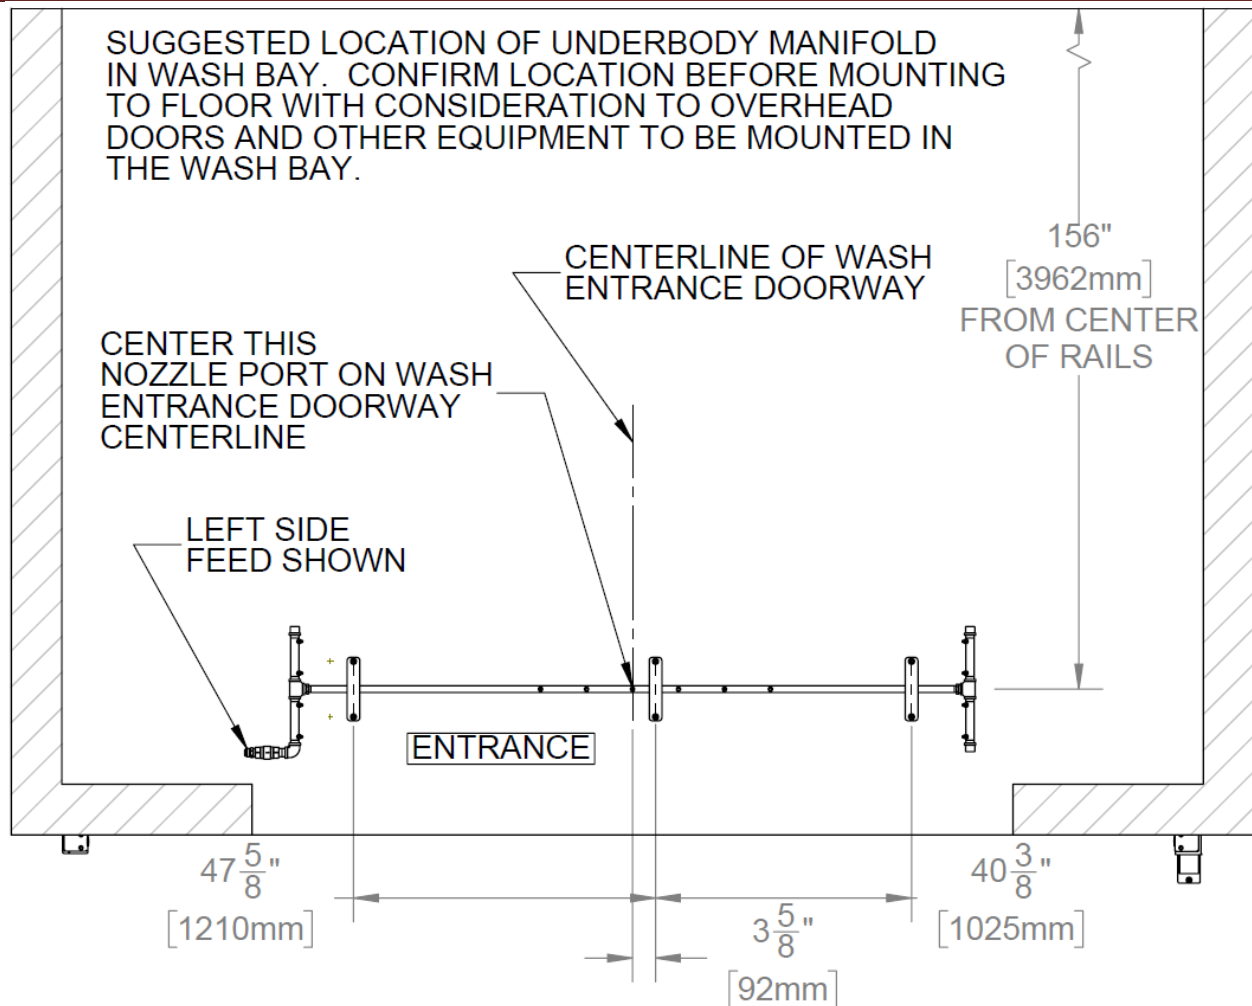
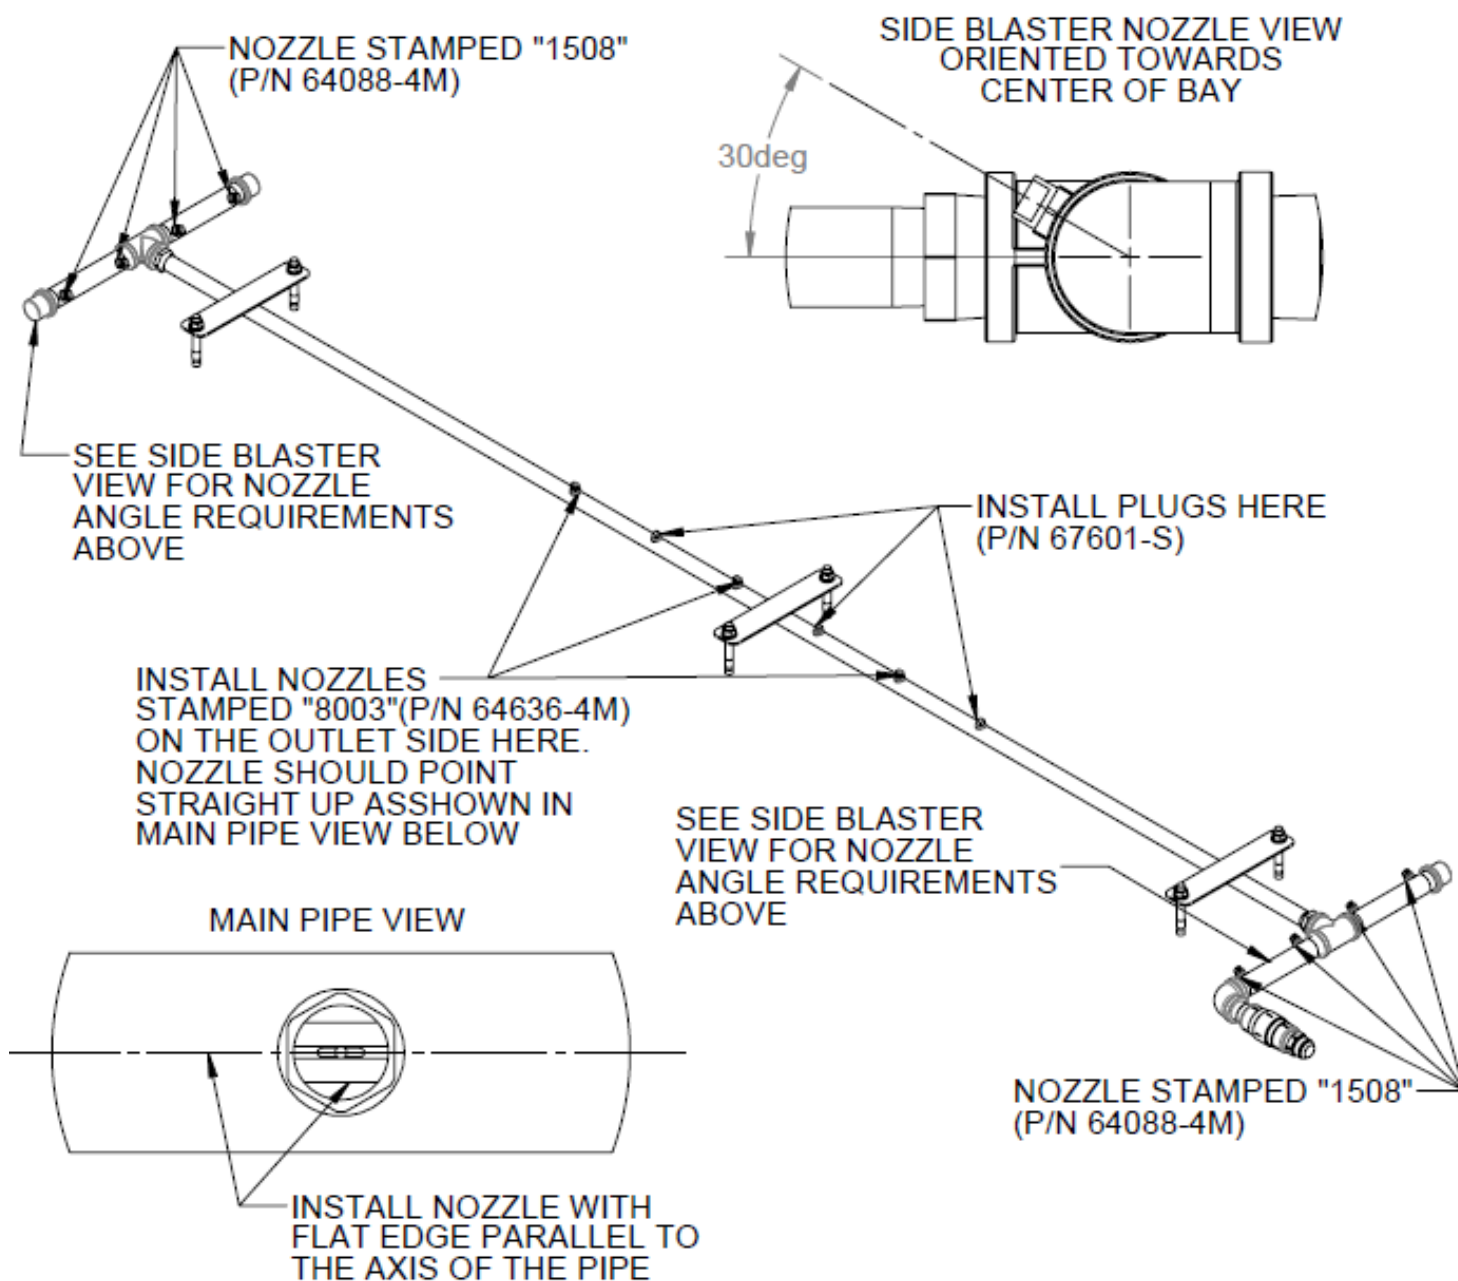

Figure 106 – Locate and Mount Underbody Manifold in Wash Bay
Figure 110 - High Pressure Drive Through Underbody Nozzle Assembly (Right Side Feed shown)
- To change the feed side, either rotate the manifold 180 degrees from the orientation shown in Figure 106, or disassemble the manifold at the end of each of the side blaster assemblies.
- After LaserWash 360 Plus startup, and the manifold is flushed of debris, install the nozzles in the orientation shown. See Figure 110 for proper nozzle assembly, right side feed shown. See Figure 106 for left side feed.